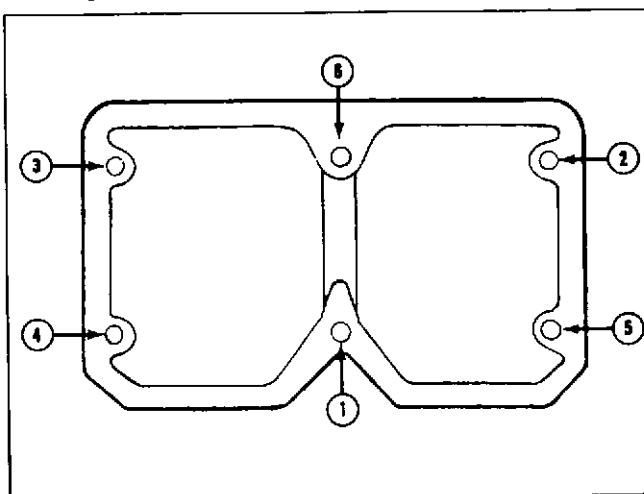

Fig. 20-6 (N11463). The Tightening Sequence For The Jacobs Brake Studs In The Rocker Lever Housings.
13. Tighten the studs to 65 to 75 ft.-lbs. [88 to 102 N•m] torque. Tighten the studs in the sequence shown in Fig. 20-6.
18. Tighten the nuts to 55 to 60 ft.-lbs. [75 to 81 N•m] torque. Tighten the nuts in the sequence shown in Fig. 20-6.